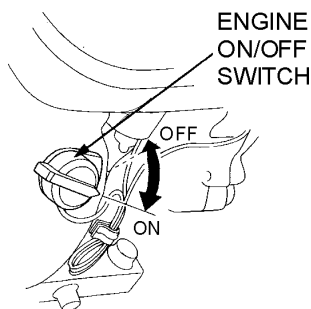

Figure 17. Engine ON/Off Switch
4. Place the **Engine ON/OFF switch** (Figure 17) in the "ON" position.
3. Place the engine ON/OFF switch (Figure 17) to the “OFF” position.
5. Place the three-way water valve (Figure 17) in the "OFF" position (as required).